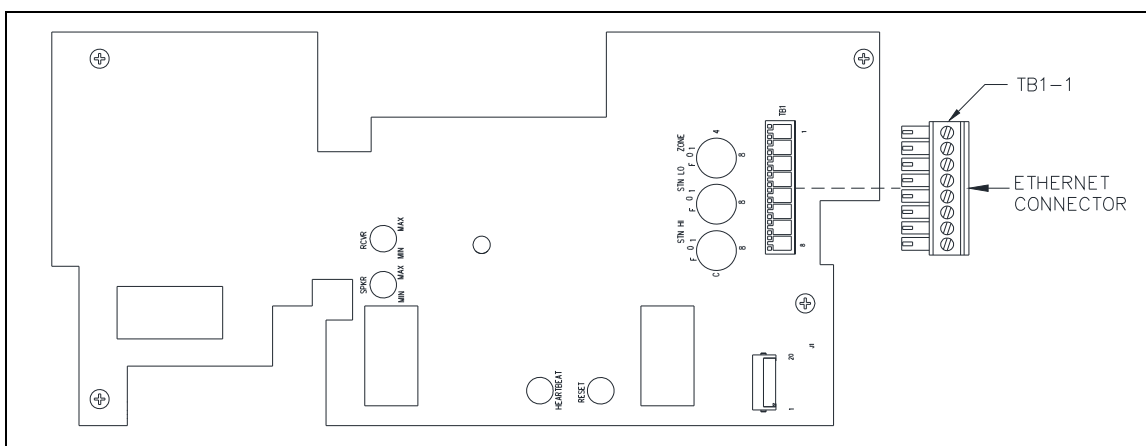

Figure 8. POE Interface PCBA
Terminate the Ethernet cable to the POE interface PCBA (see Figure 8):
4. Connect the pluggable terminal block to the POE interface PCBA (see Figure 8).